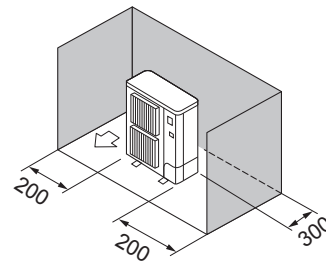

Fig. 2-5
- ③ Obstacles at rear and sides only (Fig. 2-5)